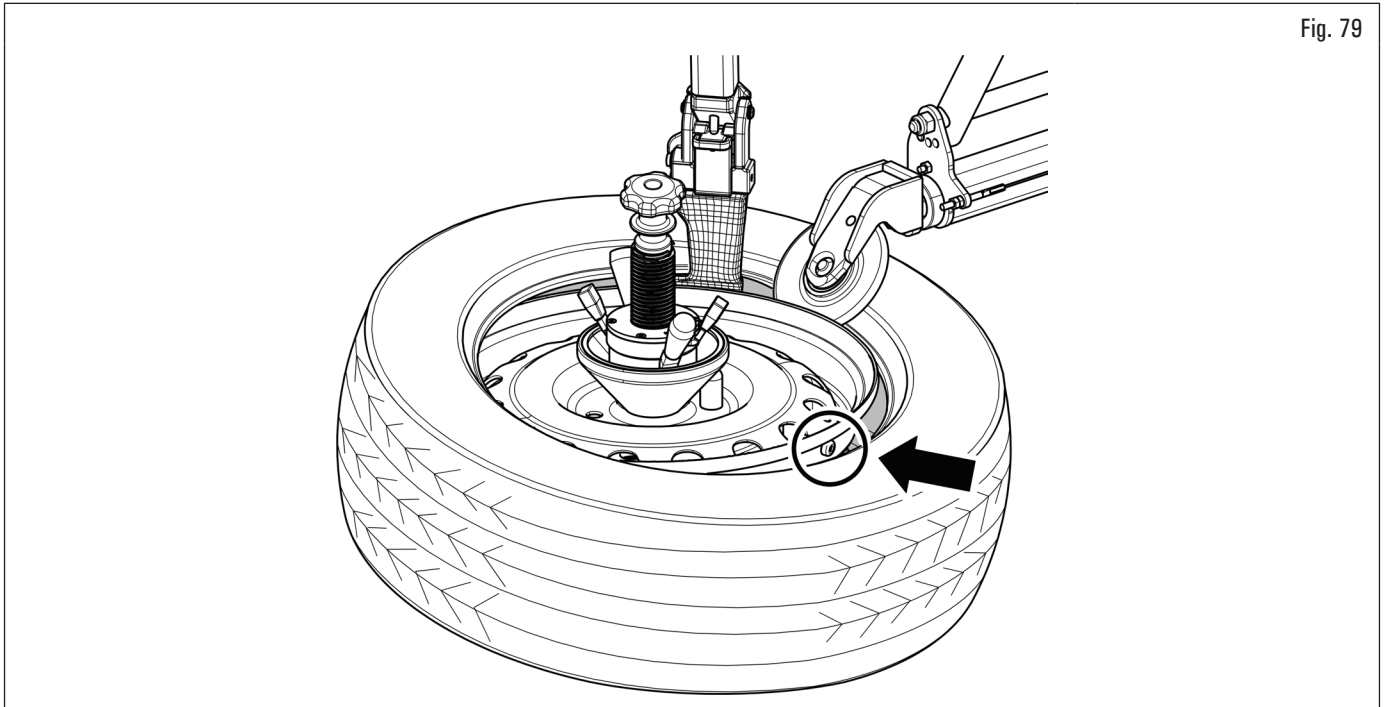

Fig. 79
4. pressing the rotation pedal, place the valve at approximately 3 o'clock (see Fig. 79). Using the appropriate push button (Fig. 6 ref. C (LOW)), place the toolhead on the edge of the rim;
5. acting on the appropriate button (Fig. 6 ref. 2 (RH)), use the upper bead breaker roller to push the tyre bead under the rim edge (Fig. 79);